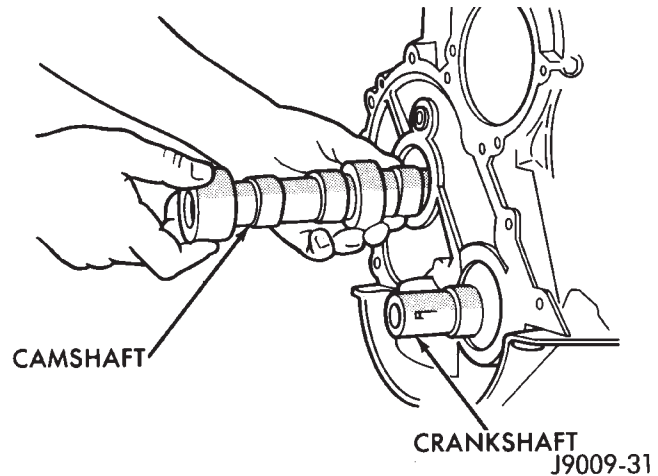
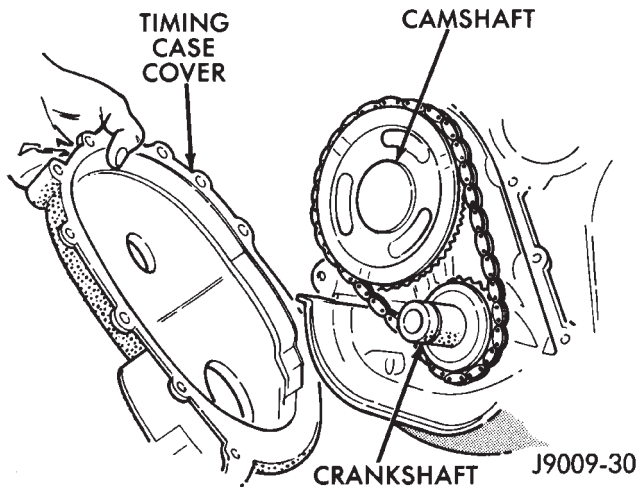

Fig. 10 Camshaft
Fig. 11 Timing Case Cover
- (5) Scribe a mark on the distributor housing near the clamp and continue the scribe mark on the cylinder block in line with the distributor mark.
- (6) For ease of installation, note the position of the rotor and distributor housing in relation to adjacent engine components.
- (7) Remove the distributor and ignition wires.
- (8) Remove the engine cylinder head cover.
- (9) Remove the rocker arms, bridges and pivots.
- (10) Remove the push rods.
- (11) Remove the hydraulic valve tappets from the engine cylinder head.
- (12) Remove the vibration damper.
- (13) Remove the timing case cover.
- (14) Remove the timing chain and sprockets.
- (15) Remove the camshaft (Fig. 10).
- (1) Lubricate the camshaft with Mopar Engine Oil Supplement, or equivalent.
- (2) Carefully install the camshaft to prevent damage to the camshaft bearings (Fig. 10).
- (3) Install the timing chain, crankshaft sprocket and camshaft sprocket with the timing marks aligned.
- (4) Install the camshaft sprocket retaining bolt and washer. Tighten the bolt to 108 N·m (80 ft. lbs.) torque.
- (5) Install the timing case cover with a replacement oil seal (Fig. 11). Refer to Timing Case Cover Installation.
- (6) Install the vibration damper.
- (7) Install the hydraulic valve tappets.
- (8) Install the push rods.
- (9) Install the rocker arms, bridges and pivots.
- (10) Install the engine cylinder head cover.
- (11) Install the distributor and ignition wires.